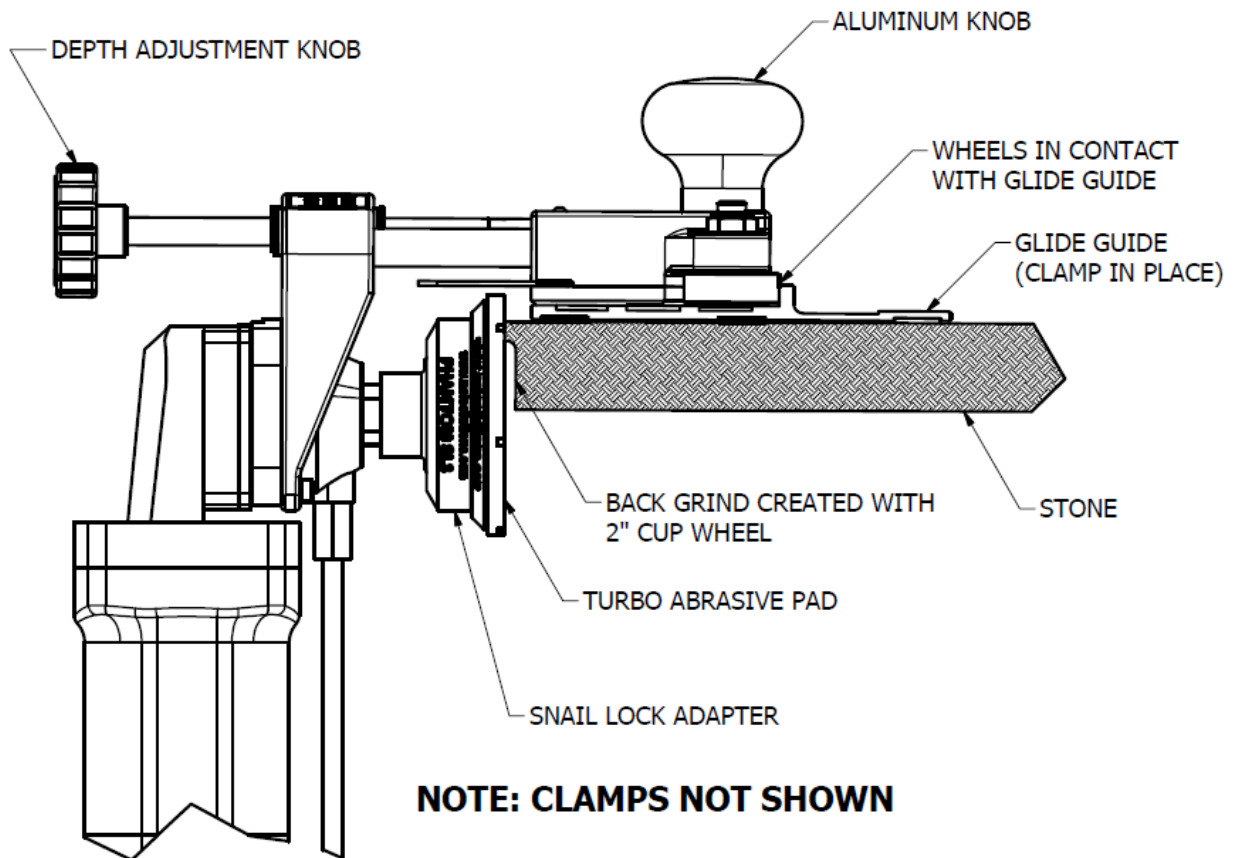

FIGURE 5 – Dressing the Seam
d) Turn the adjustment knob clockwise until the turbo pad just touches the stone and begin grinding the seam back and forth keeping the wheels in contact with the vertical edge of the Glide Guide as shown in Figure 5.